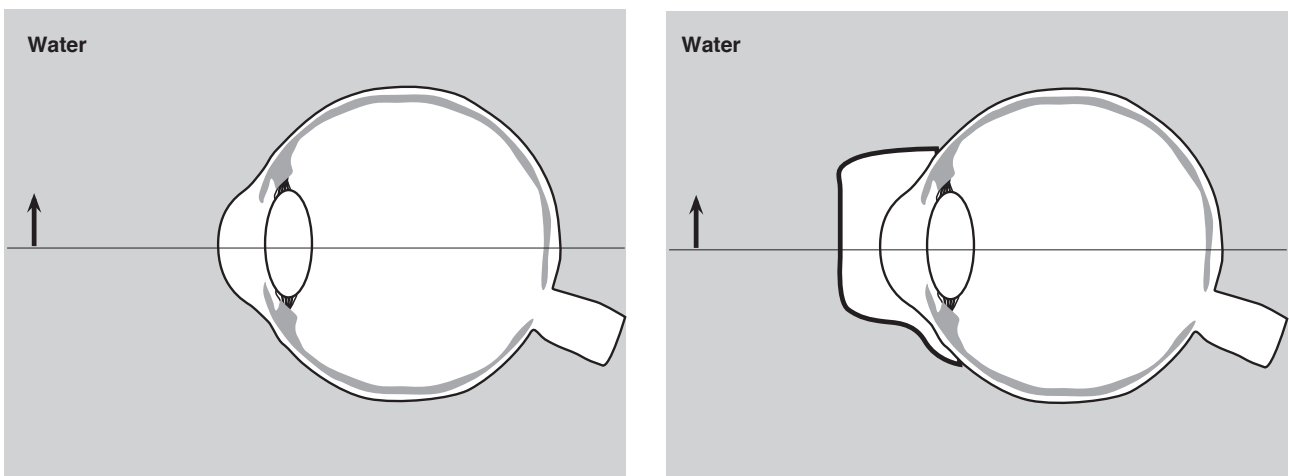

Figure 143.3 How a mask improves vision underwater
3. Use your textbook to help you draw arrows in Figure 143.3 to indicate how a mask improves vision underwater.